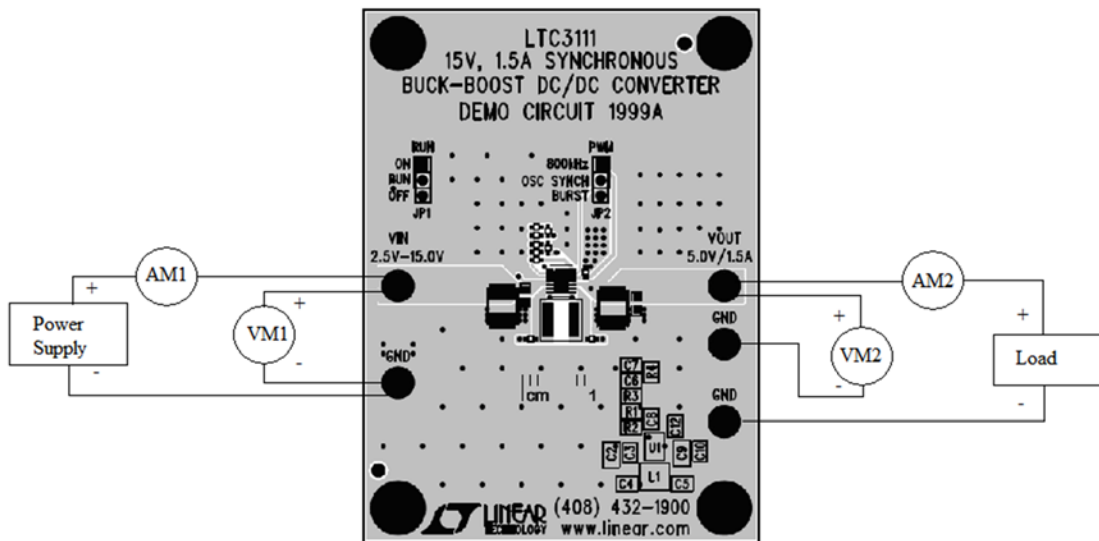

Figure 1. Measurement Setup
Using short twisted-pair leads for any power connections and with all loads and power supplies off, refer to Figure 1 for the proper measurement and equipment setup. The power supply should not be connected to the circuit until told to do so in the procedure below.
2. With power OFF connect the power supply as shown in Figure 1. If accurate current measurements are desired (for efficiency calculations for example) then connect an ammeter in series with the supply as shown. The ammeter is not required however.
3. Connect the load to VOUT as shown in Figure 1. Again, connect an ammeter if accurate current measurement or monitoring is desired.